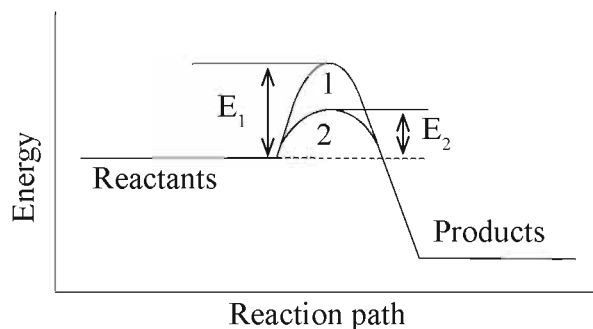

Fig 3.8: Energy level diagram showing effect of a catalyst on the activation energy of reactions.
- From the graph in Fig 3.8 on previous page 48.